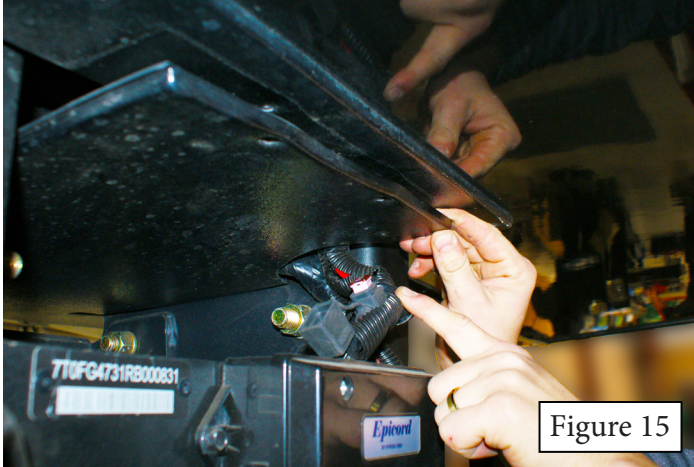

Figure 15
4. Remove both pieces of the pinbox shroud and set aside safely (Figure 15).